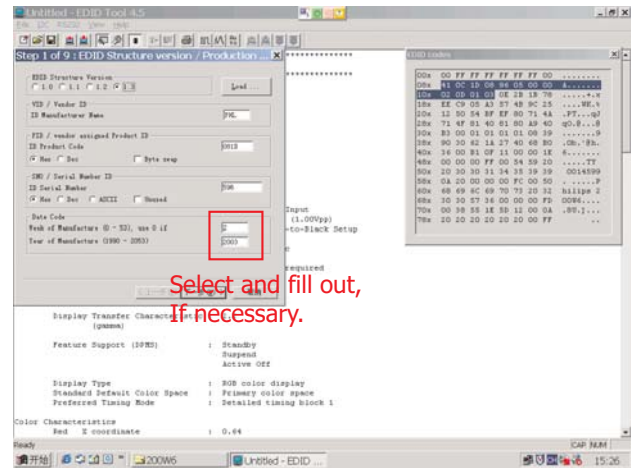

Fig. 21
1. Click (new function) icon from the tool bar, bring up Step 1 of 9 as shown in Fig. 21. EDID45 DDC application provides the function selection and text change (select & fill out) from Step 1 to Step 9.